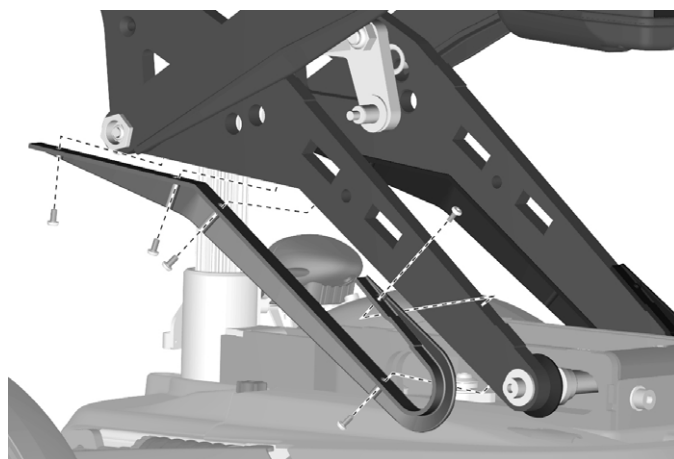

Figure 103. The pinch guard is assembled with five screws.
5. Remove the five screws holding the pinch guard to the lower elevator arm. See fig. 103.